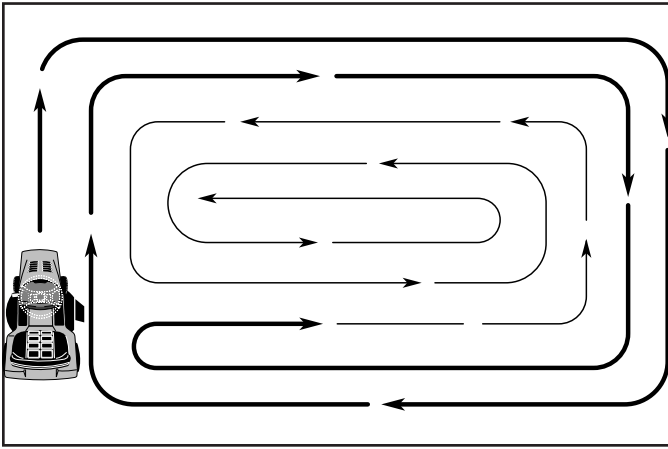

Fig. 17
- When mowing large areas, start by turning to the right so that clippings will discharge away from shrubs, fences, driveways, etc. After one or two rounds, mow in the opposite direction making left hand turns until finished (See Fig. 17).